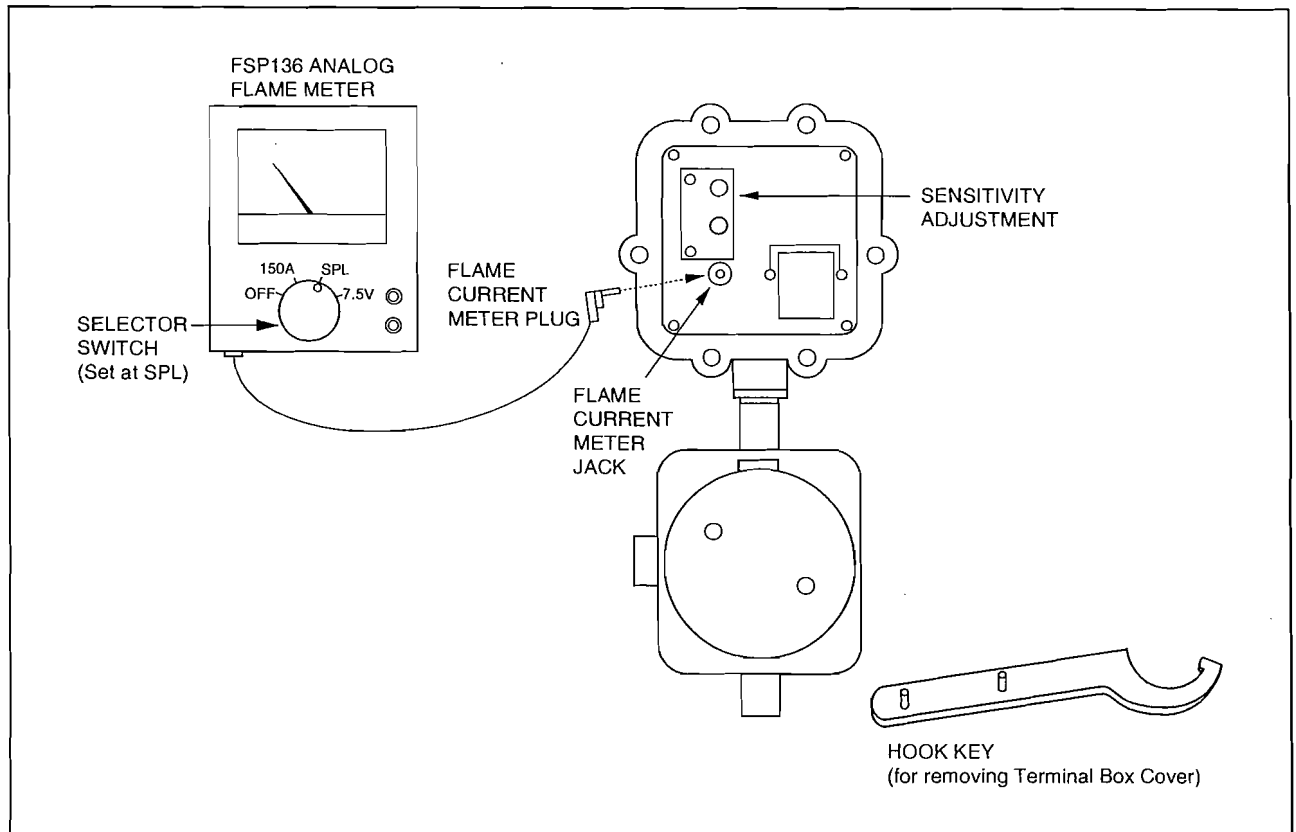

Fig. 9 Sensor Flame Current Reading
- After each step in the following procedures, loosen the six screws in the rear cover plate and check for a meter reading at the FLAME CURRENT METER jack on the detector (Fig. 9)